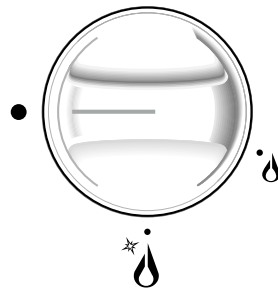

Fig. 2.1b
- 1 - Turn the knob fig. 2.1b in anti-clockwise direction up to the maximum aperture (symbol ) , push in and hold the knob; this will light the gas. In case of black-out, bring a lighted match close to the burner.
The electric ignition is incorporated in the knobs (★ symbol beside flame  - max. heat/max. gas flow fig. 2.1b).